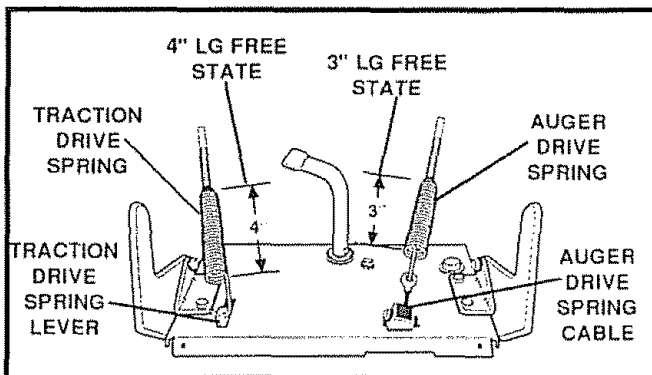
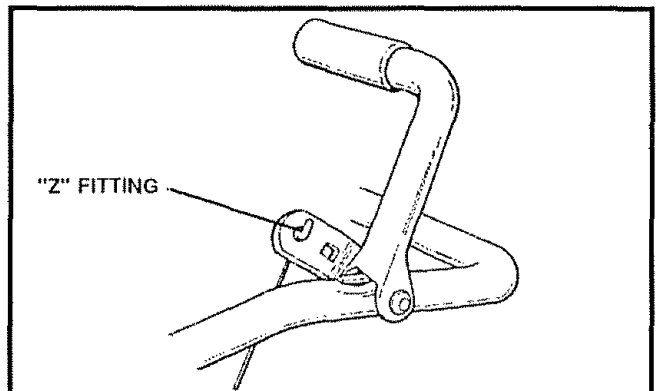

FIG. 3A
FIG. 3
- Install the control cables to control levers as shown in Fig. 3 and Fig. 3A.
**NOTE:** If control cables have become unattached from motor mount frame, reconnect cables (See Fig. 3A below).